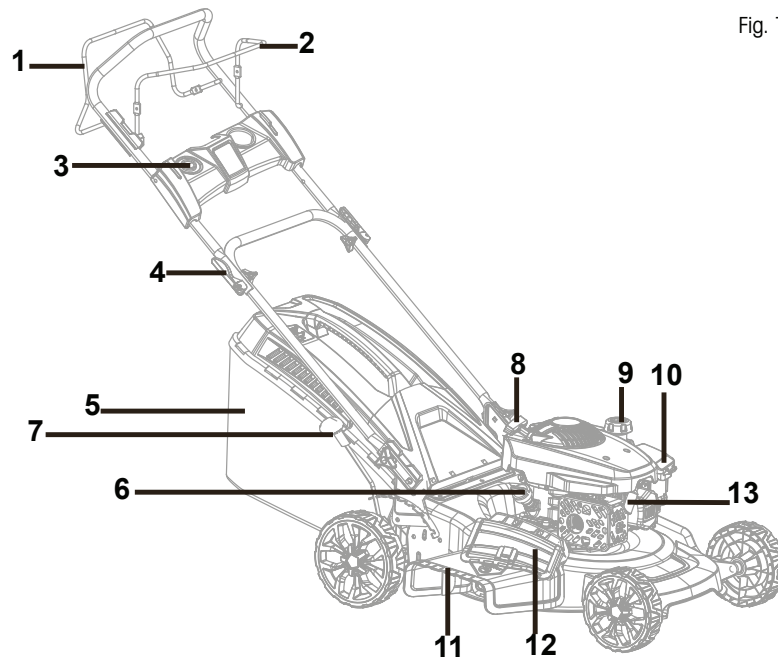

Fig. 1
3. DESCRIPTION OF THE LAWNMOWER (Fig. 1)